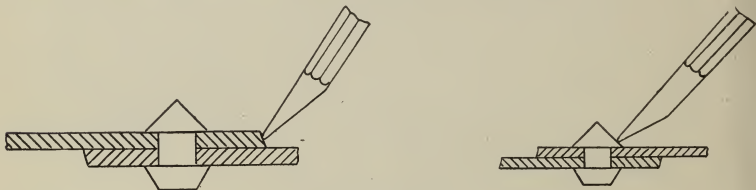

FIGURE 16.
*Calking.*—Boilers have to be calked at the joints in order to make them steam and water tight. The operation is a very simple one and can be performed by almost anybody. It consists simply in driving the edge of the upper sheet down tightly upon the lower one. A rather heavy hammer is used for this purpose and a tool having rounded edges, whose appearance and method of operation is shown in Figure 16.